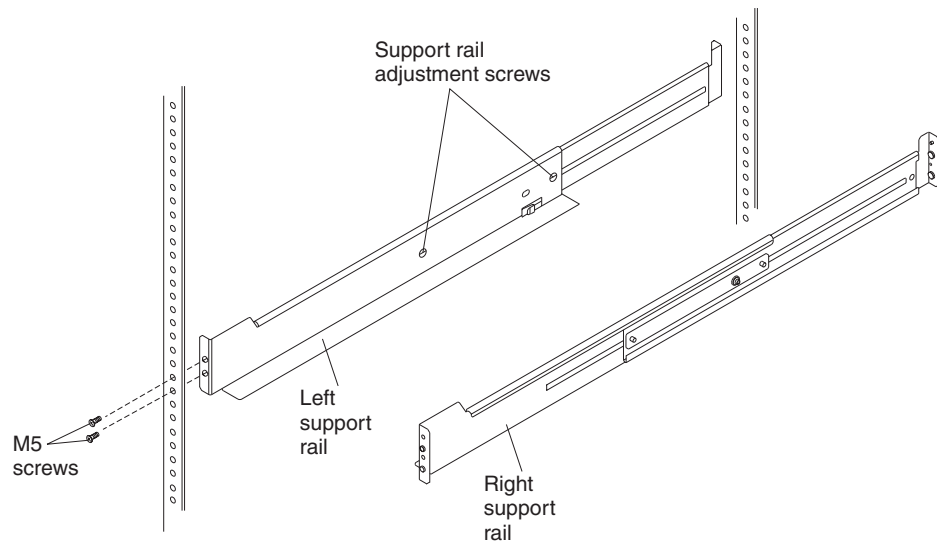

Figure 15. Installing the support rails
**Note:** Refer to Figure 15 on page 35 while performing these steps.